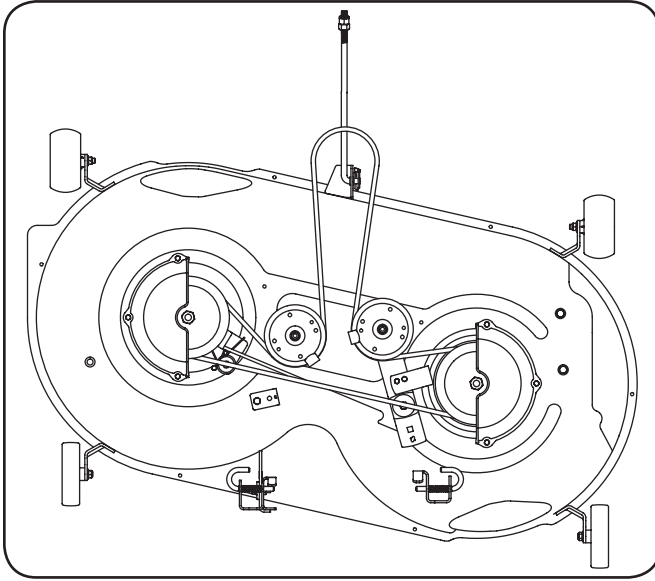

Figure 7-8
6. To place the new belt begin by routing the belt around the two outer spindle pulleys as shown in Fig. 7-8.
7. Then route the belt around the two deck idler pulleys as shown in Fig. 7-8.